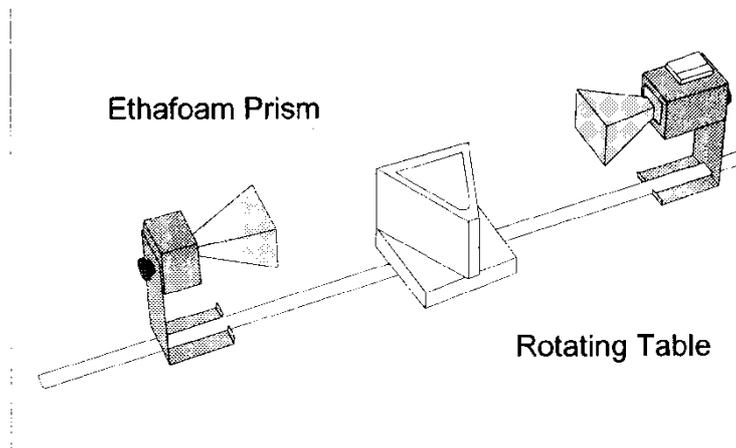

Figure 5.2: Equipment Setup
1. Arrange the equipment as shown in Figure 5.2. Rotate the empty prism mold and see how it effects the incident wave. Does it reflect, refract, or absorb the wave?